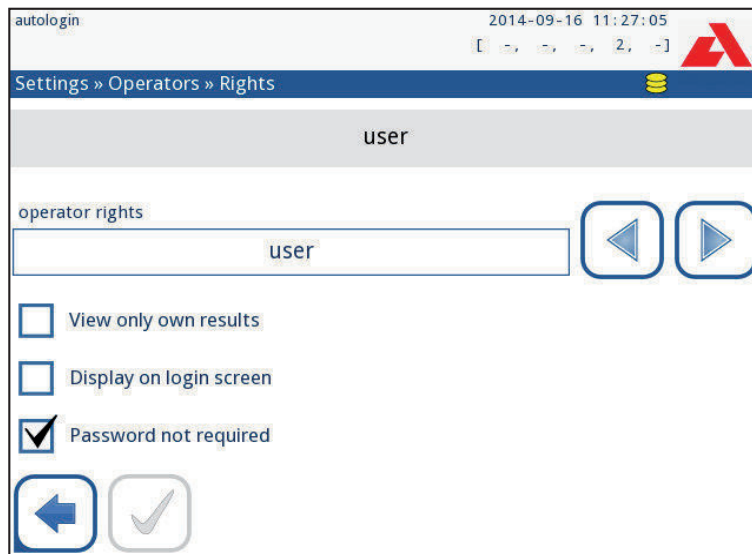

Figure 49: The operator account management menu
1. Select an operator account on the list, and enter its **Settings » Operators » Rights** menu (☞ Figure 49).
Apart from the user rights associated with them, operator accounts can be further customized by users with administrator- and supervisor-level operator accounts on the **Settings » Operators » Rights** menu (☞ Figure 49).